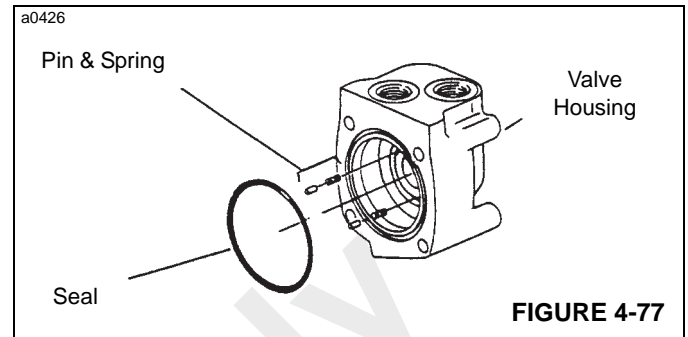

FIGURE 4-77
- 17. Install two springs (18) and pins (17) in the holes located in the bore of valve housing (19). See Figure 4-77.